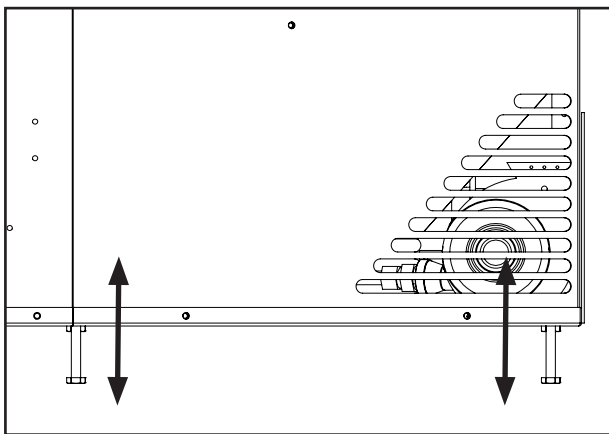

Figure 34: Levelling Legs Position.
15. Adjust the levelling legs to ensure the unit is level and high enough if a base shelf and/or riser is to be installed. There are four levelling legs on the bottom of the unit (shown in Figure 34).